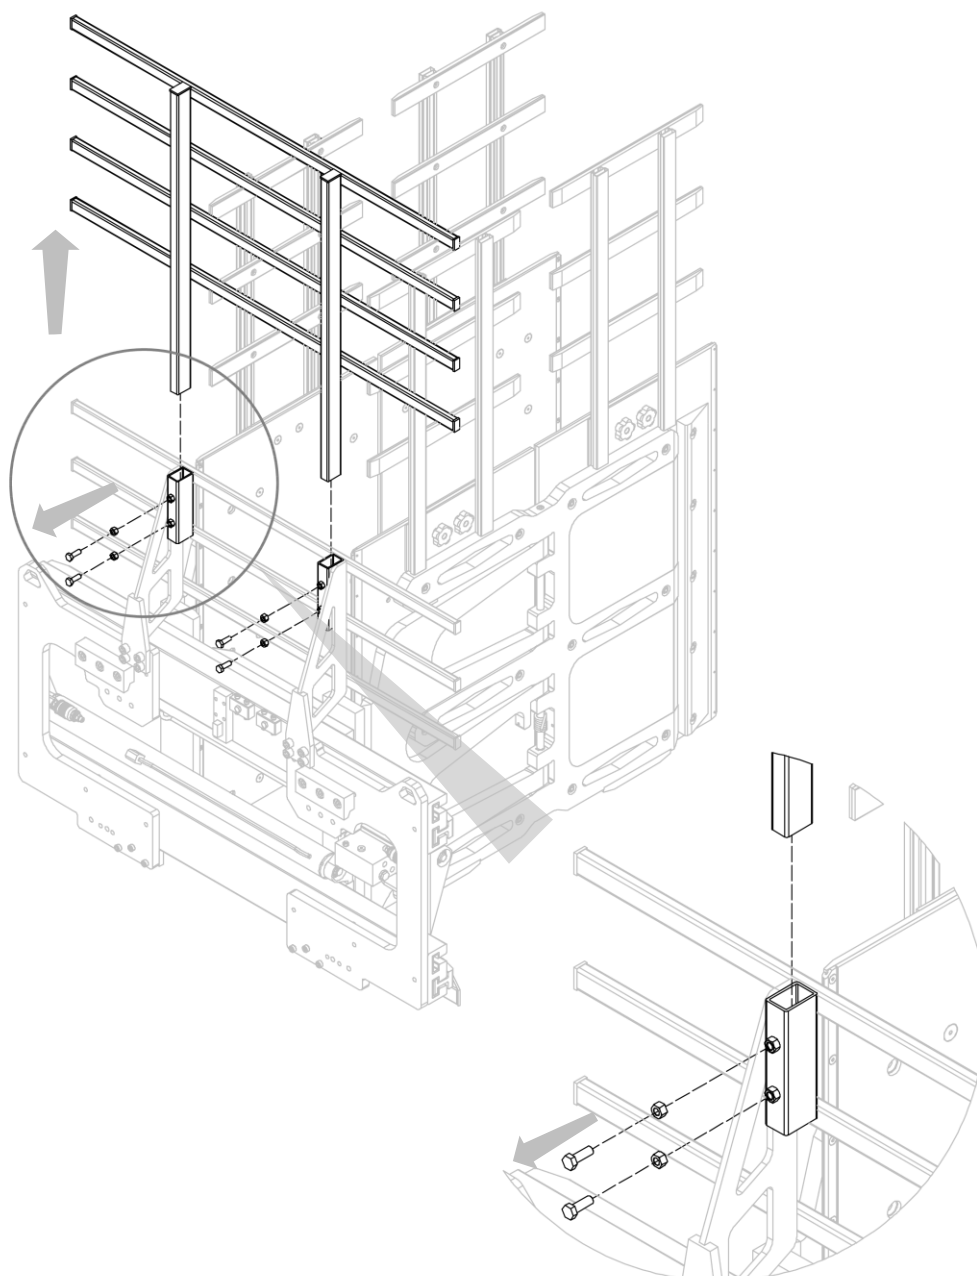

Figure 60
3. Remove the upper part of the load-retaining frame after removing the screws and locknuts (see *Figure 60*).